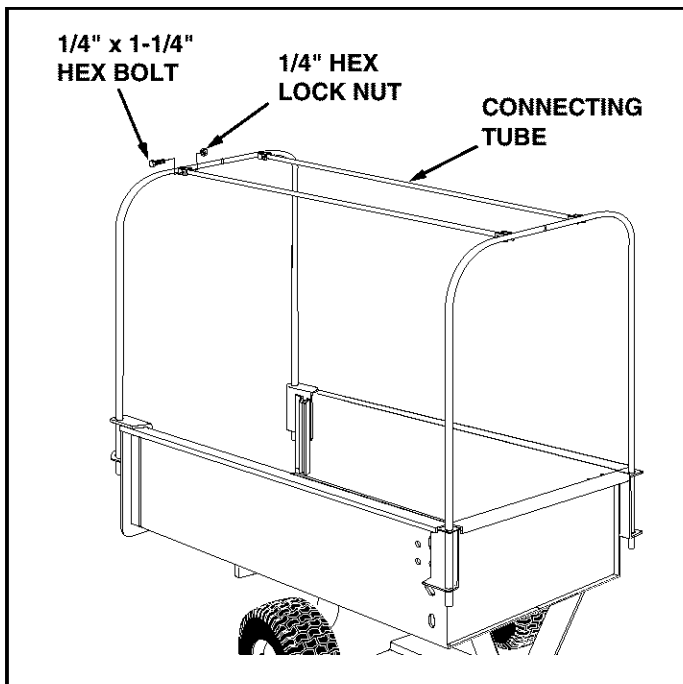

FIGURE 12
- Assemble the top connecting tubes to the support tubes using four 1/4" x 1-1/4" hex bolts and 1/4" hex lock nuts. **Tighten** only until there is no end play in bolt. Tubing should fold up when removed from cart. See Figure 12.